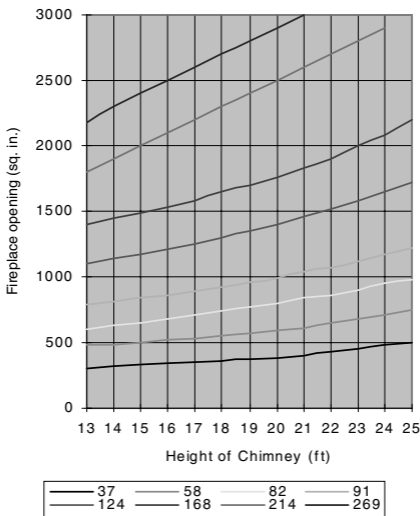

Figure 6-11 MINIMUM FLUE SIZES FOR MASONRY CHIMNEYS
- (a) The effective area of a chimney serving listed appliances with draft hood. Category I appliance listed for use with Type B vents is to be sized using Figure 6-11 and Table 6-11.